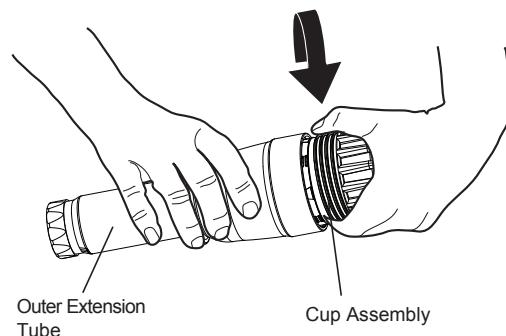

Figure 5
- Unscrew the cup assembly, remove outer extension tube and set aside (see Figure 5).